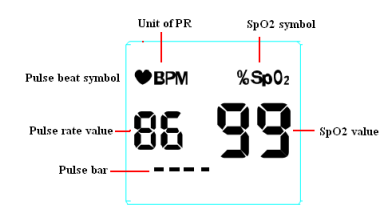

Figure 5 Display screen
- Next, review the data display screen, as shown in Figure 5.